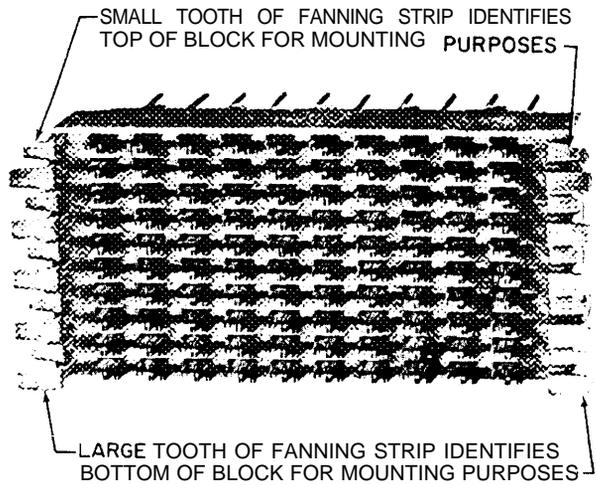
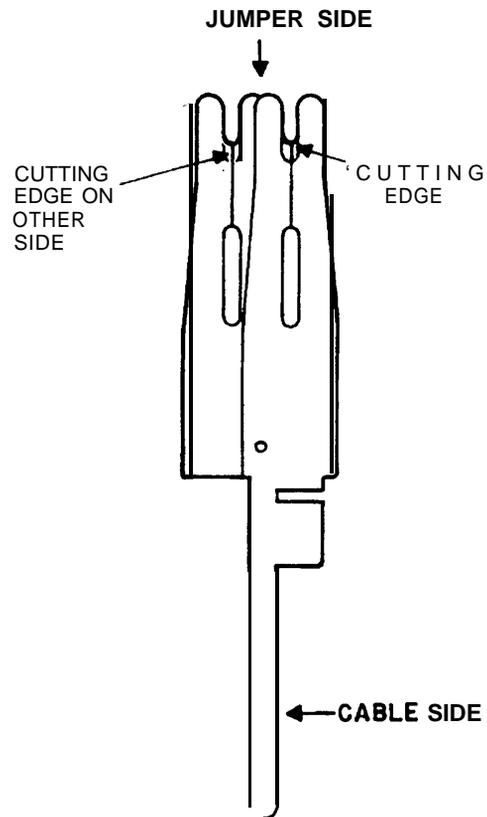

Figure 3. Double-Clip Quick-Connect Block (EC-10358-A).
Figure 4. Double-Clip Quick-Connect Terminal (EC-10357-A).
2.02 This block (see Figure 3) is similar to the EC-10176-A except it is equipped with double-clip instead of single-clip quick-connect type terminals (see Figure 4). This block provides a cross-connection (jumpering) capacity of 50 pairs.